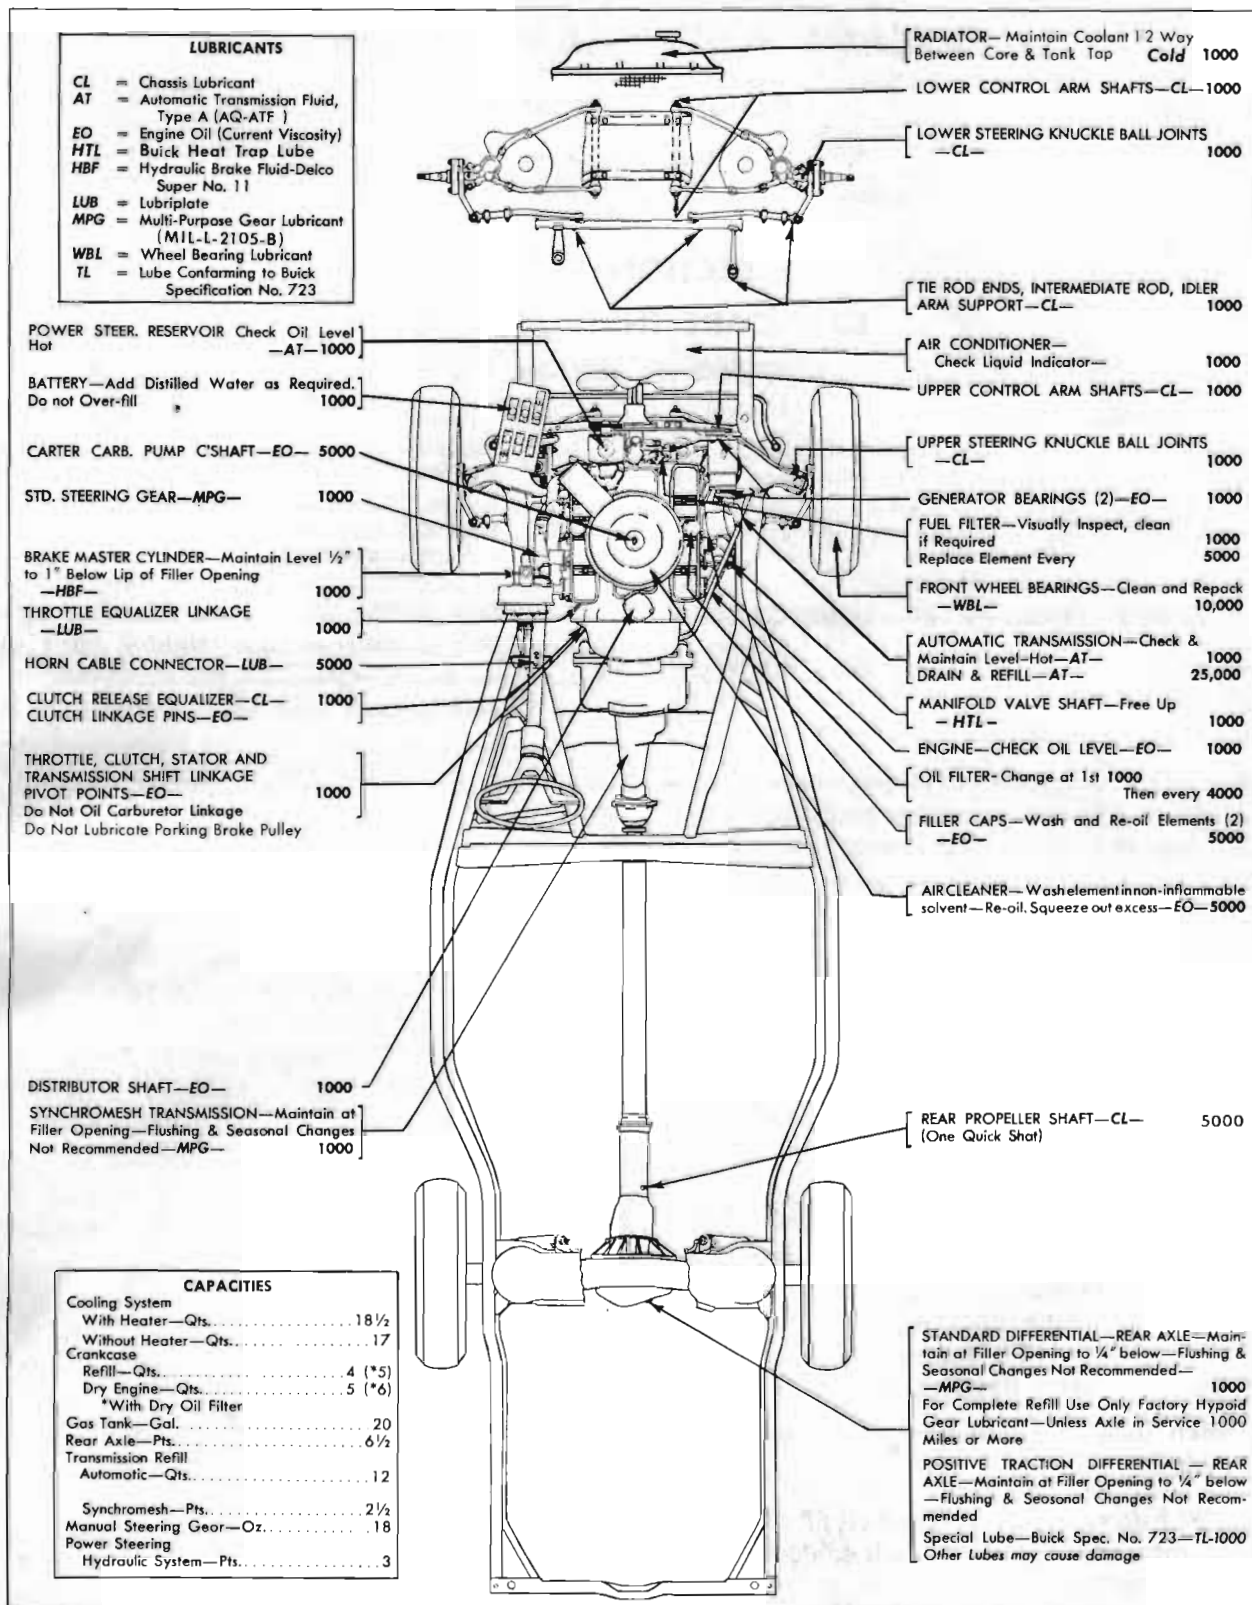

Figure 1-2—Chassis Lubricare Chart—All Series
2. *Front Suspension, Steering Linkage, Clutch and Rear Propeller Shaft Lubrication Fittings.* Wipe dirt from lubrication fittings, then apply a good grade of water resistant chassis lubricant, under pressure, at the following points (fig. 1-2) :
- Tie Rod Ends (2), Intermediate Rod (2),